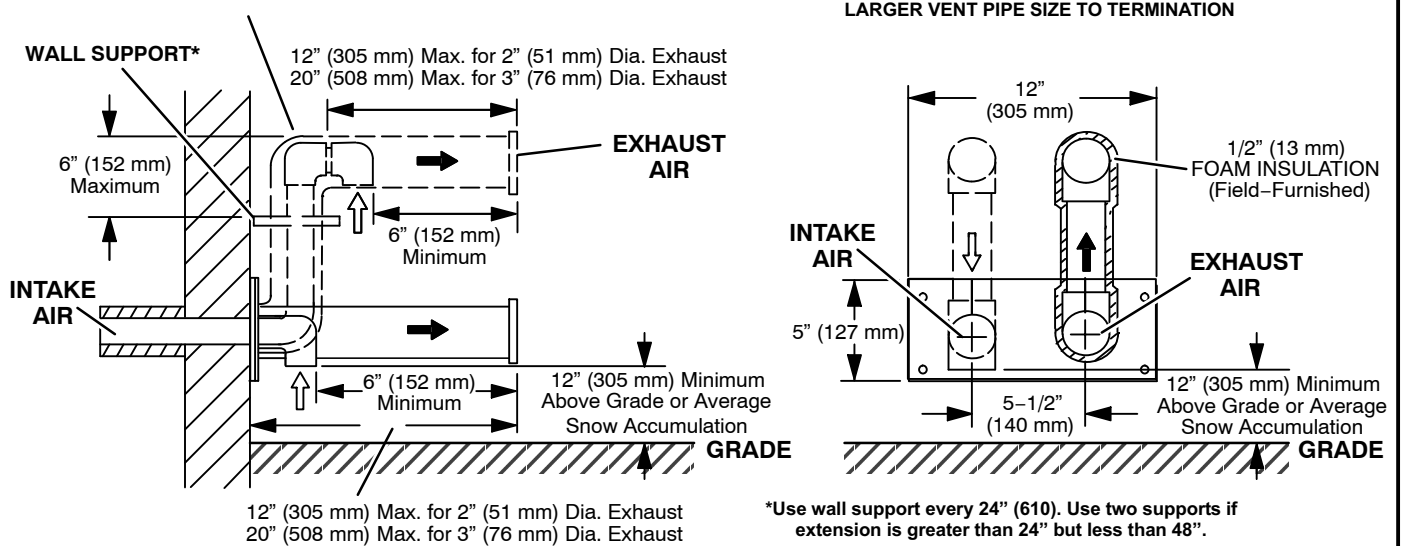

**FIGURE 38**
- If intake and exhaust piping must be run up a side wall to position above snow accumulation or other obstructions, piping must be supported every 24" (610mm) as shown in figures 30 and 31. In addition, close coupled wall termination kits must be extended for use in this application. See figures 38 and 39. When exhaust and intake piping must be run up an outside wall, the exhaust piping must be terminated with pipe sized per table 11. The intake piping may be equipped with a 90° elbow turndown. Using turndown will add 5 feet (1.5m) to the equivalent length of the pipe.